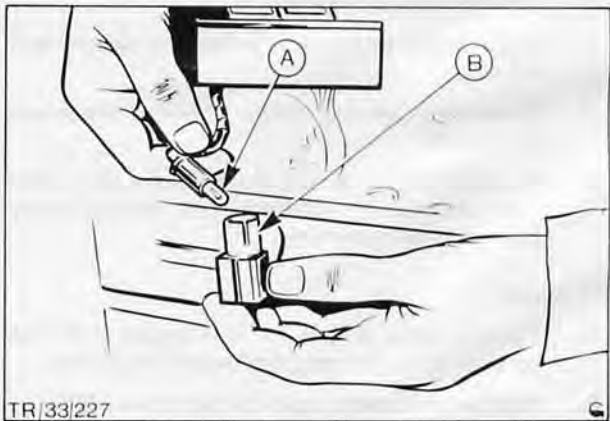

Fig. 51. Removal of quadrant bulb
2. Slide out bulb holder from base of selector lever and detach bulb from holder, Fig. 51.